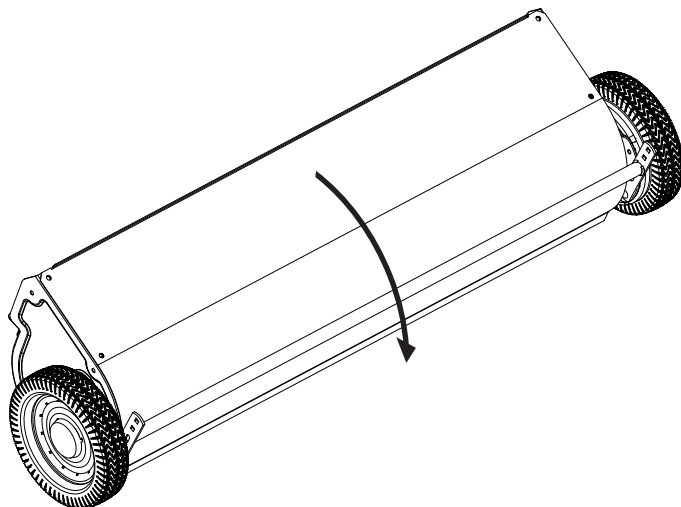

FIGURE 3
- Tip the sweeper housing (1) forward until it rests as shown in figure 3.